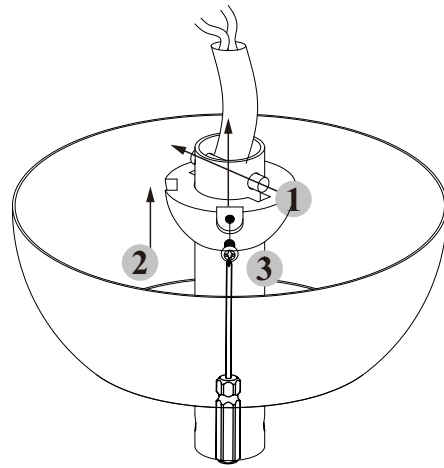

Figure 11
1.Reinstall the hanger ball on downrod using the reverse steps from (Step 3) (Fig.11)